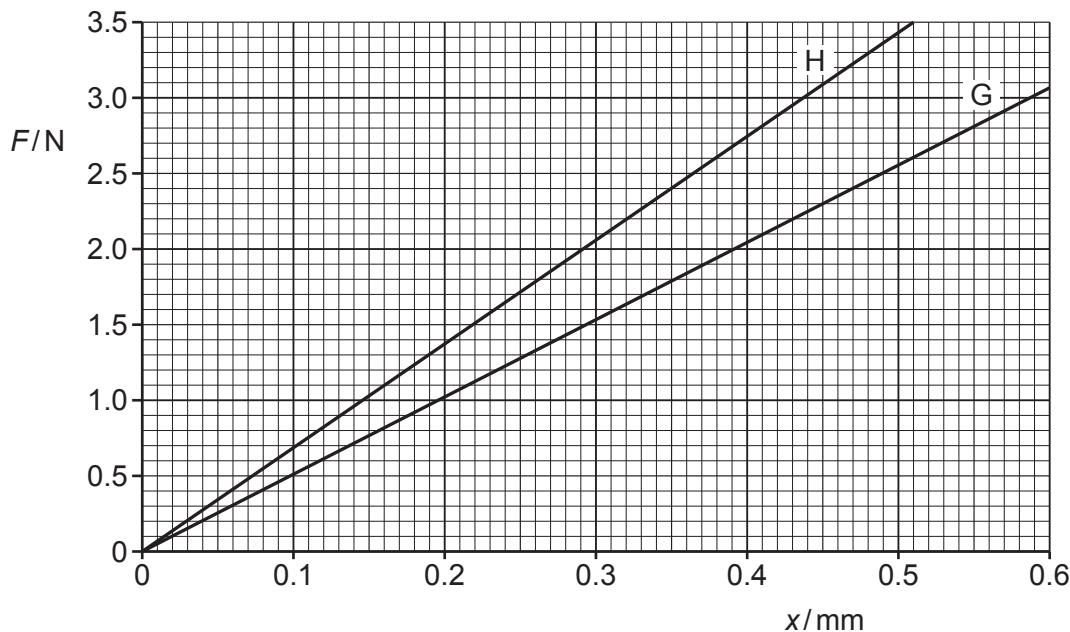

Fig. 4.1
- 4 Fig. 4.1 shows the variation with extension x of the tensile force F for two wires, G and H, made from the same material.
- (a) For the lines in Fig. 4.1:
- (i) Use Fig. 4.1 to determine: